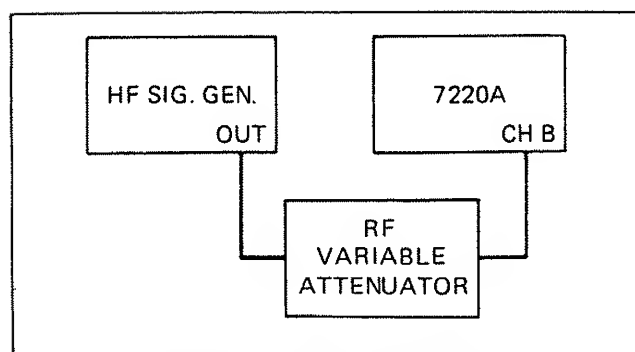

Figure 4-4. Channel B Check
1. Connect the 7220A and test equipment as illustrated in Figure 4-4. Set 7220A controls as listed under Initial Set-up except for the following changes: